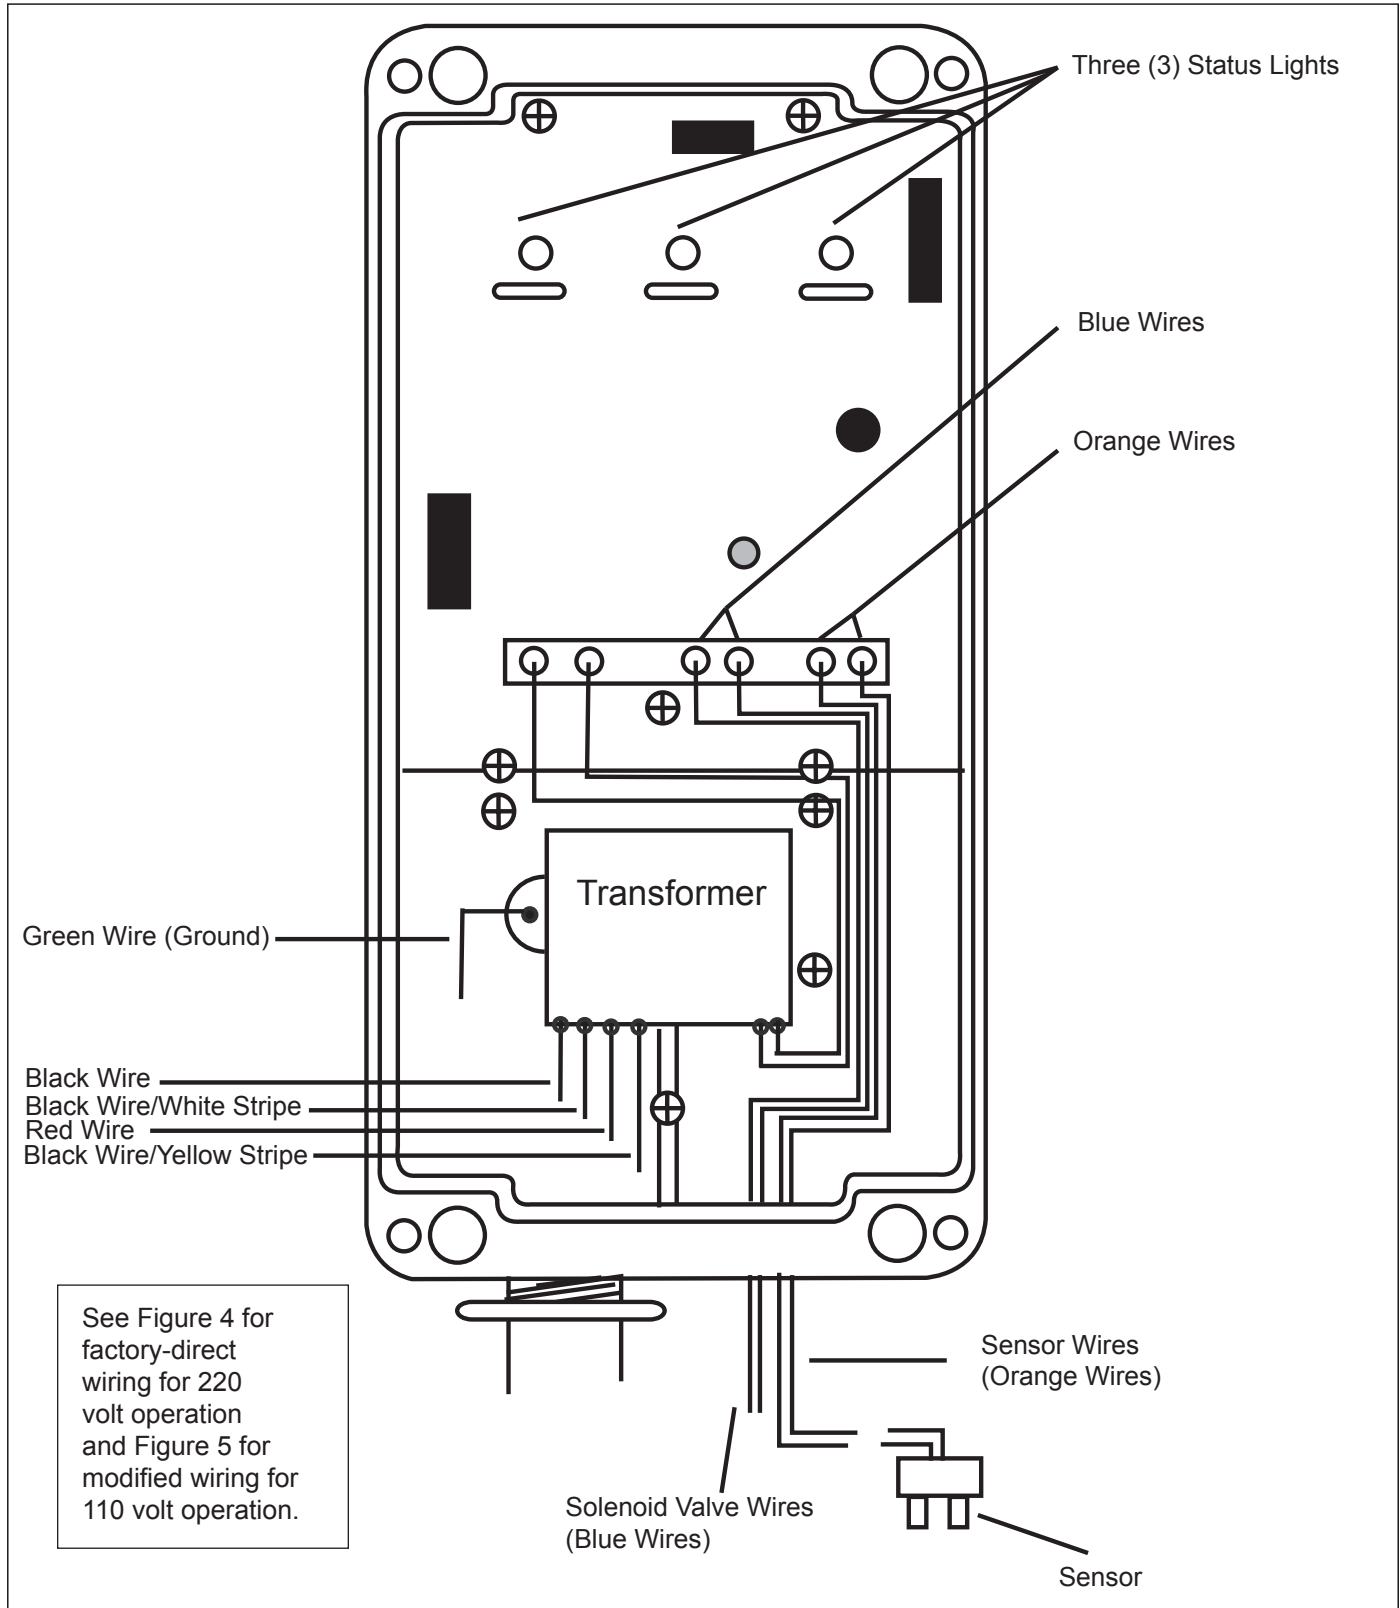

Figure 3. K-1100 and LEV110CK/2G Control Box
Connect the sensor cable to the two (2) orange wires in the control box using wire nuts. See Figures 3 and 6.